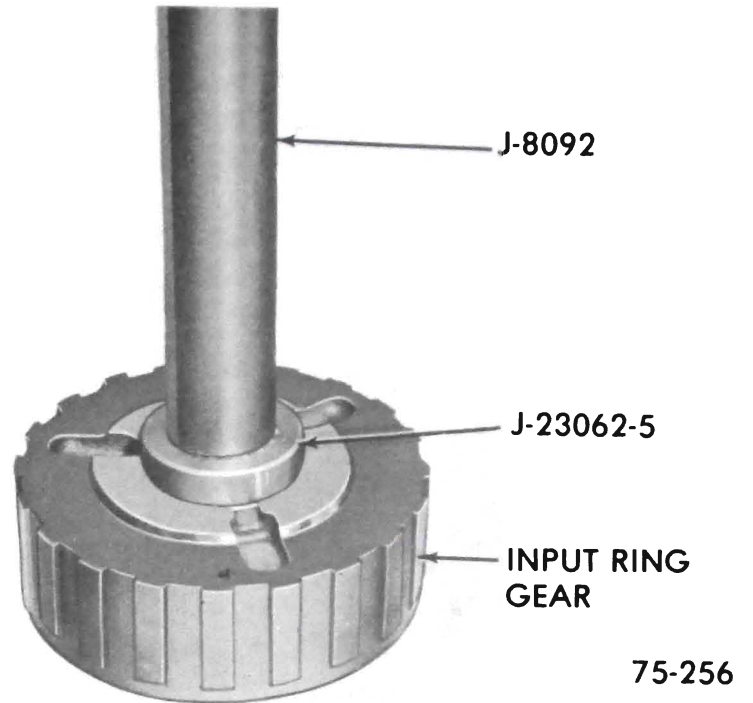

Figure 75-100
and remove bushing from ring gear. See Figure 75-100.
b. Using Tool J-23062-5, press in new bushing .050" to .060" from inner surface of hub. See Figure 75-100.